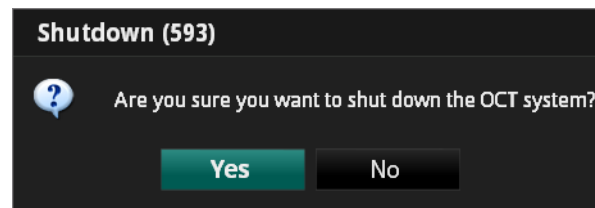

Figure 2-3: Shutdown Menu
1. Click the **Shutdown** button located at the top of the screen. The system's **Shutdown** menu appears (Figure 2-3).